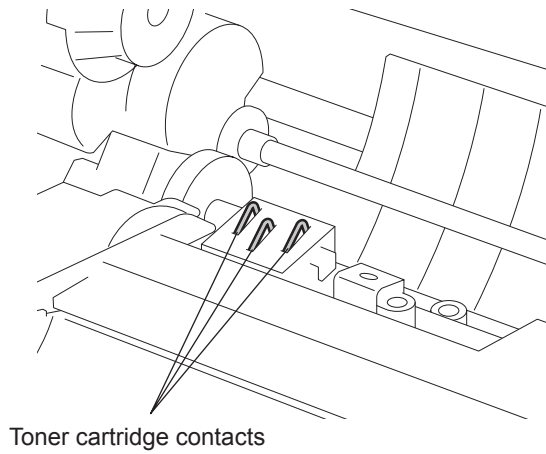

Fig. 10-14
- 10) Toner cartridge contacts (P.10-10 "Fig. 10-14")